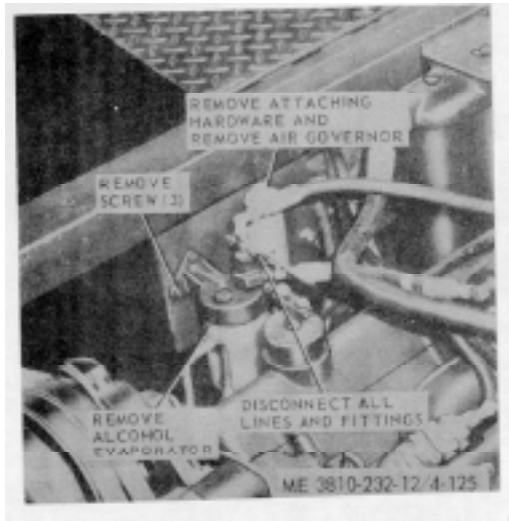

Figure 4-125. Air compressor governor and alcohol evaporator for, removal and installation.
(1) Relieve pressure from the system.
(2) Remove air compressor governor as illustrated in figure 4-125.
c. Installation. Install governor as illustrated in figure 4-125.
b. Removal. Remove alcohol evaporator as illustrated in figure 4-125.
(1) Clean the alcohol evaporator with an approved cleaning solvent.
(2) Inspect strainer in the bottom of the body near the mounting flange to be sure it is clean and free of obstructions.
(3) Inspect all connections and openings in body to be sure they are free of obstructions.
(4) Inspect for cracks or other damage.
(5) Replace a damaged or defective alcohol evaporator.
d. Installation. Install the alcohol evaporator as illustrated in figure 4-125.